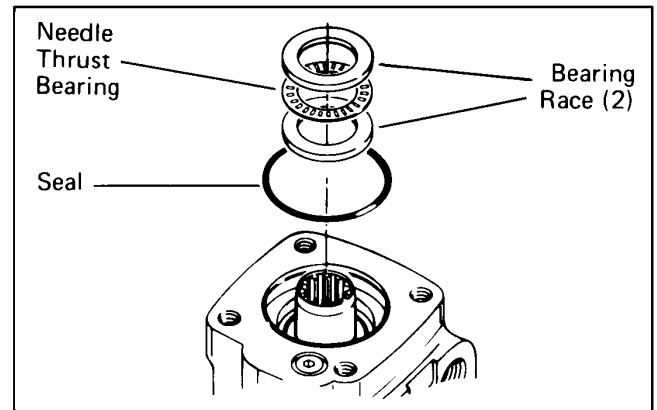

Figure 41
11. Place housing on clean, lint free cloth. Install 2-1/8" diameter seal in housing, see Fig. 41.